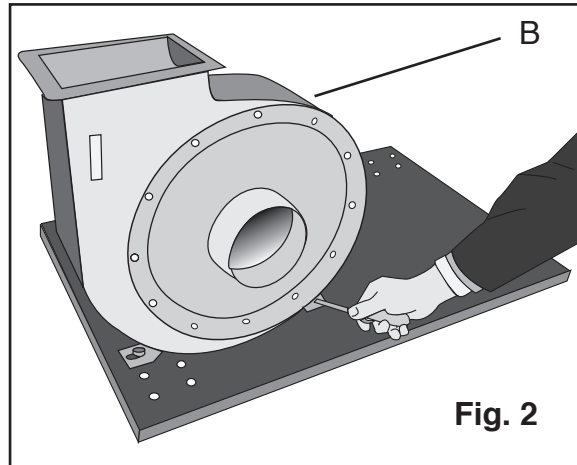

Fig. 2
Fig. 2: Mount motor (B) to motor support bracket (B1) using (4) long hex bolts and (4) large 08mm washers and (4) M8 large nuts. Then place motor onto motor base, as shown below. Hardware needed – 6 short hex bolts (M8) to hold the motor and motor blower housing to the base plate. 6 washers total needed.